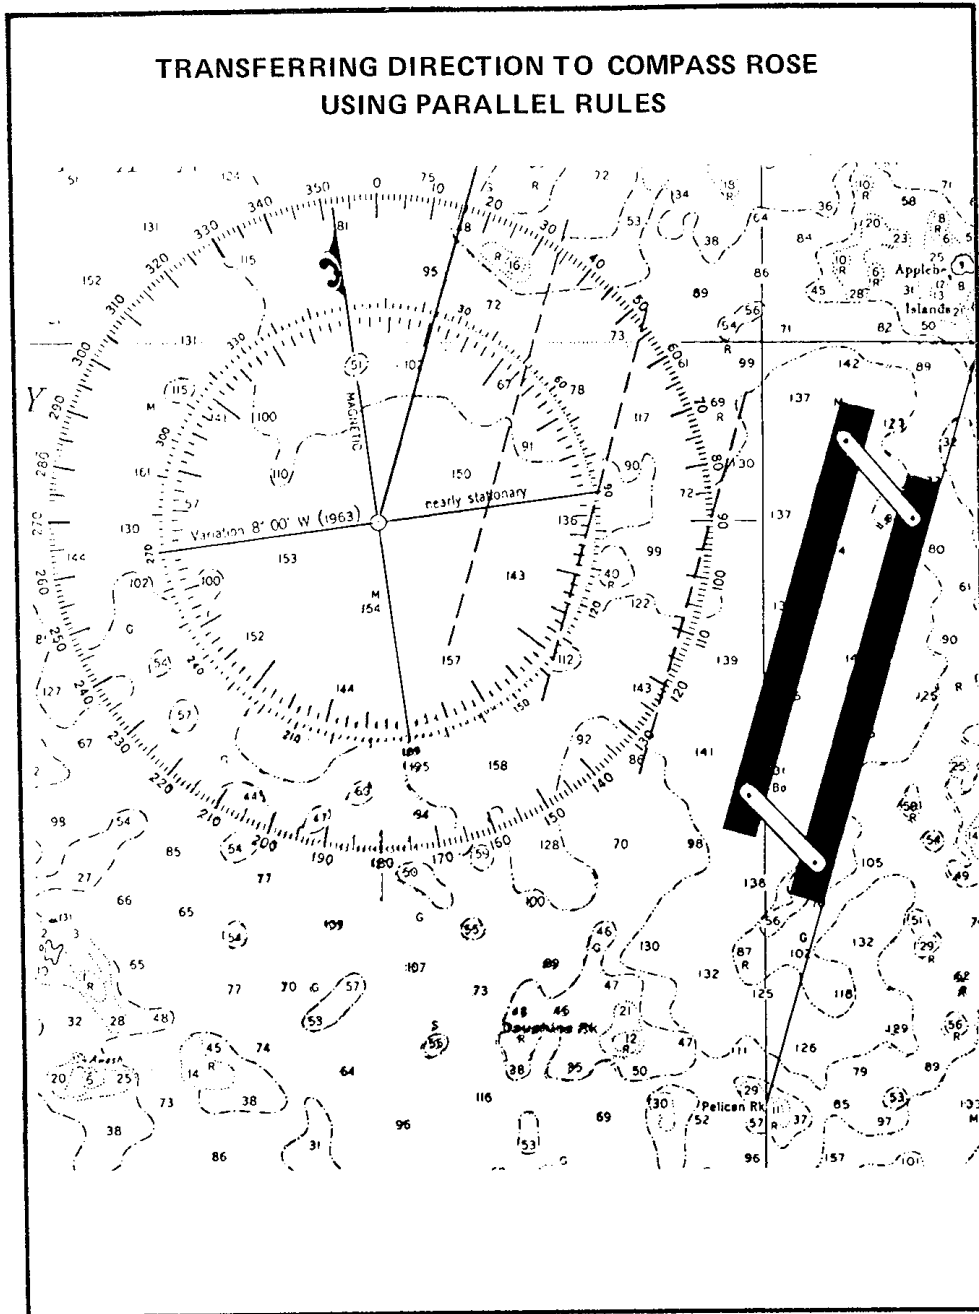

Figure 7-13 Transferring a Direction to a Compass Rose Using Parallel Rules
34. **Taking off Direction** — (See Figure 7-13.) Prominently displayed at several places on each chart is a **compass rose**. It consists of two circles, one within the other, each marked clockwise in degrees from 0° at the top (north) around through 180° (south) to 360° or 0° . The **outer circle** has its north-south axis (0° - 180°) lying parallel to the meridians: **it is oriented to true north**. The **inner circle** appears rotated so its 0° is off to one side. This circle **is oriented to magnetic north**, which is not the same as true north. By reference to one circle or the other it is possible to determine the direction of any line placed on the chart either as a true direction or a magnetic direction. In modern practice all such directions are expressed in degrees of a circle, clockwise from north. Older systems referred to the **cardinal points** — N, E, S, W — the **inter-cardinal points** — SE, SW, NW, NE — and further subdivisions to the total of 32, hence the points of the compass, each of which is $11\frac{1}{4}$ degrees.